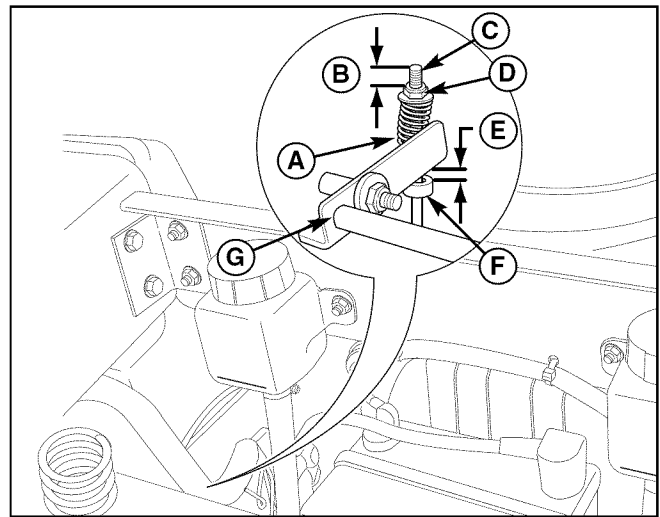

Figure 36. Parking Brake Adjustment
3. Measure the distance from the top of the brake spring rod (C, Figure 36) to the top of the lock nut (D) on both sides of the unit. The measurement should be .50" (1,27 cm). If not, adjust the locknut to achieve the measurement of .50" (1,27 cm).
4. Measure the distance between the bottom of the brake shaft weldment (G) and the top of the set collar (F). The measurement should be .375" (0,95 cm). If not, position the set collar until the measurement equals .375" (0,95 cm).
3. Insert a .016"-.018" (0,40-0,45mm) feeler gauge (C) through each window, positioning the gauge between the rotor face and the armature face as shown in Figure 36.